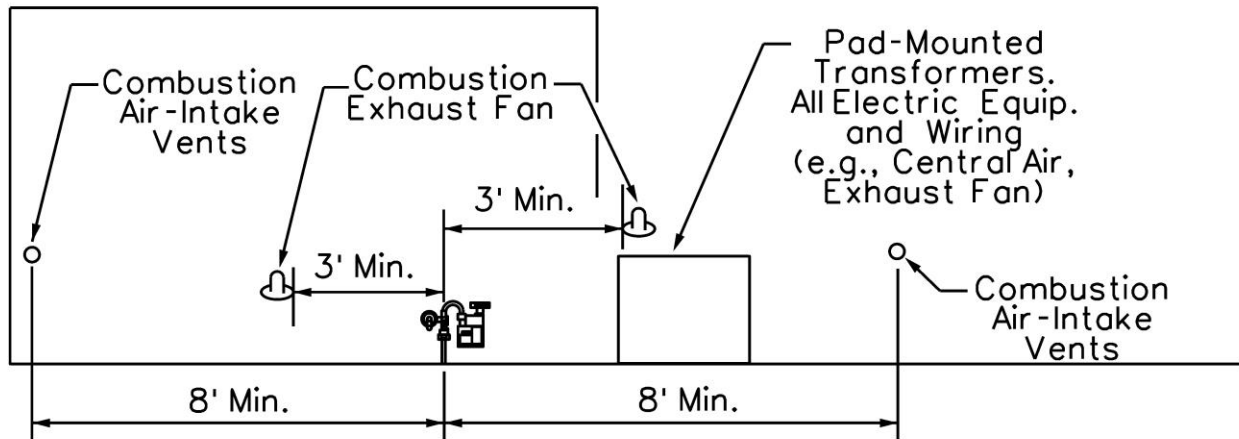

Figure 4. Requirements for Gas Regulator Set Clearance from Sources of Ignition
- (c) The riser must be a minimum lateral distance of 8 feet from a forced air intake into the building. (See Figure 4.) For a large meter set or multi-meter manifold, this clearance requirement extends 8 feet beyond the edge of the Company meter set equipment. The 8-foot distance extends around corners of the building.